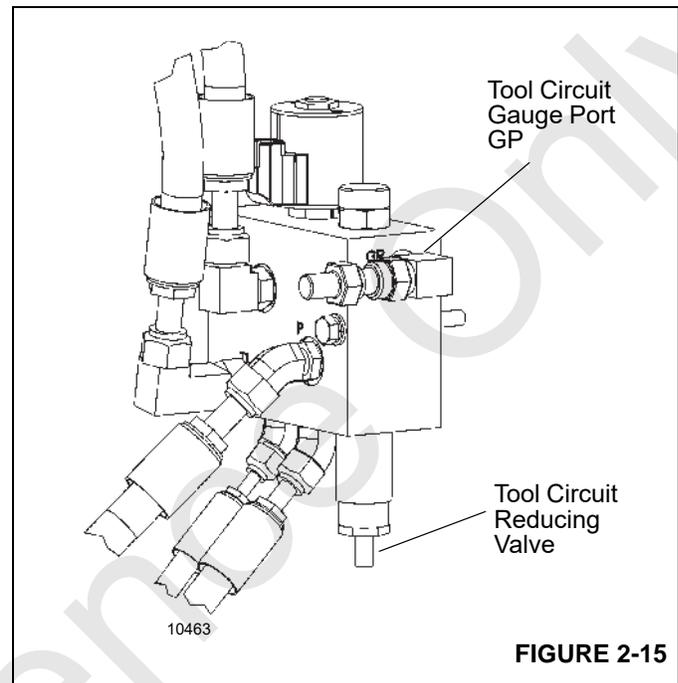

FIGURE 2-15
The tool circuit has a single reducing valve in the tool circuit manifold with a setting of 124_bar (1800 PSI) (Figure 2-15 and Table 2-3).
1. Install a 345 bar (5000 psi) minimum gauge in the GP gauge port on the tool circuit valve (Figure 2-15).